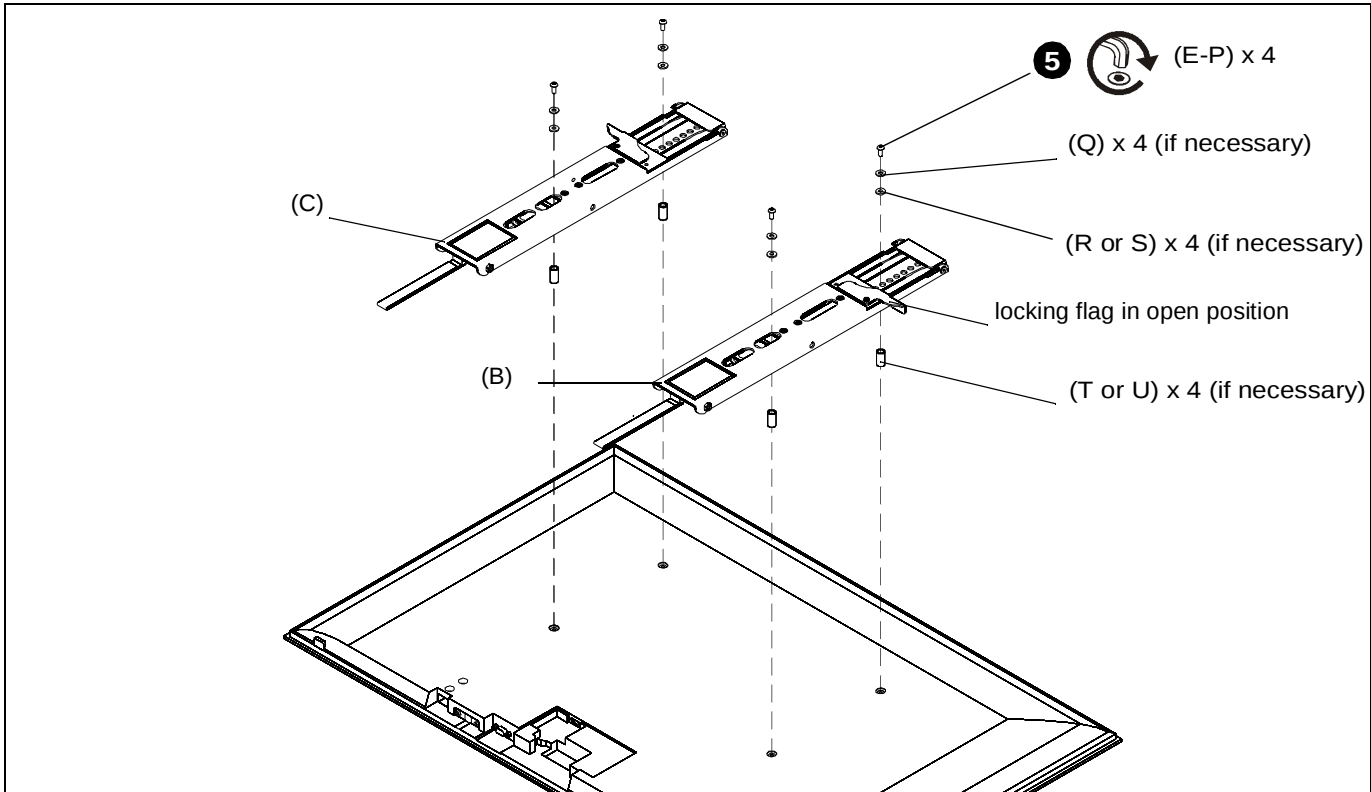

Figure 3
5. Install four button head cap screws (E-P) through required washers (Q) and spacers (R-U), interface brackets (B and C) into holes on back of display. (See Figure 3)
**NOTE:** Make sure locking flags are in the open position before attaching display to wall plate. Flags are shown in the open position in Figure 3.